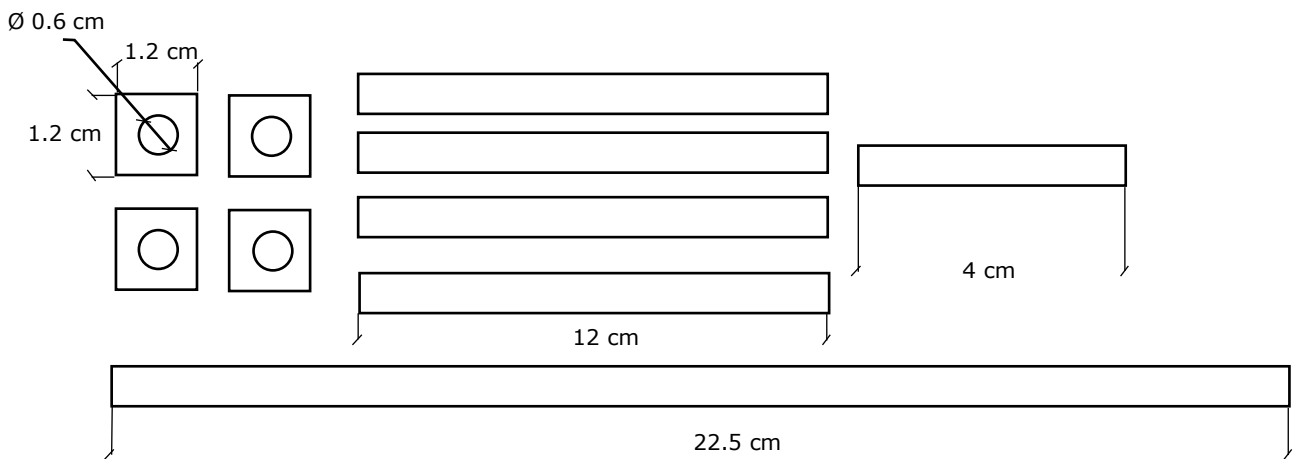

Figure 3: Dowels
3. M6 dowels for the shafts according to Figure 3.
4. **FOUR** squares to be cut from 15 mm material (e.g. plywood or MDF) cut according to the measurements given in Figure 3.